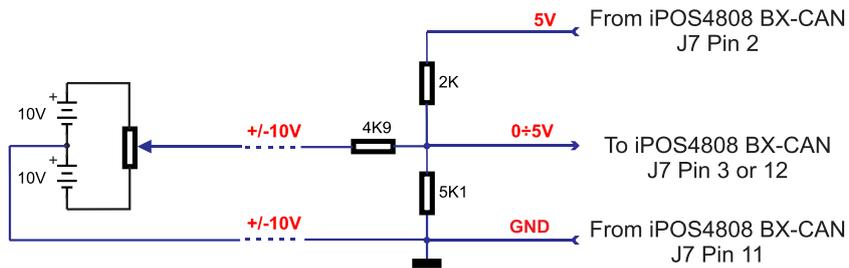

Figure 3.9. +/-10V to 0-5V adapter
**Remark:** Default input range for analog inputs is 0÷5 V for REF and FBDK. For a +/-10 V range, see Figure 3.9.